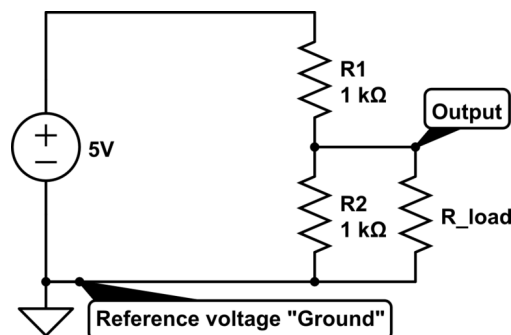

Figure 1: A voltage divider circuit with a load
- Q. Determine the equation for the voltage drop across the load resistor,  $V_L$  (this is the output voltage), as a function of  $V_{IN}$ ,  $R_1$ ,  $R_2$ , and  $R_L$  for the circuit show in figure 1. *Hint: Notice that  $V_L = V_2 = I_1(R_2 || R_L)$*
- Build the circuit shown in figure 1 using your resistance decade box for the load resistor and the HP power supply set to 5 volts with current limiting set to 100 mA.